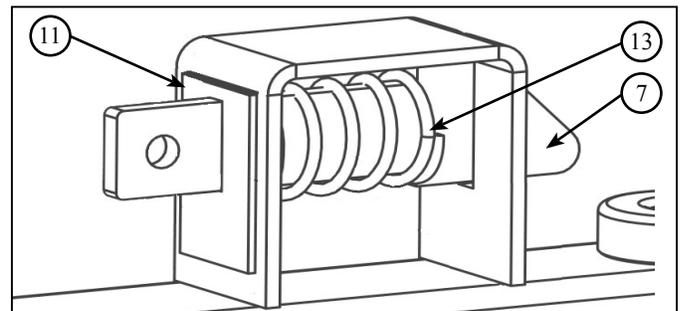

Figure 3.9 - Bed Latch Spring
6. Position spring (13) inside the bed latch bracket, and insert latch (7) through the back-side of the slot, spring, and the front-side slot. Refer to Figure 3.9
7. Slide guard plate (11) onto latch. Refer to Figure 3.9